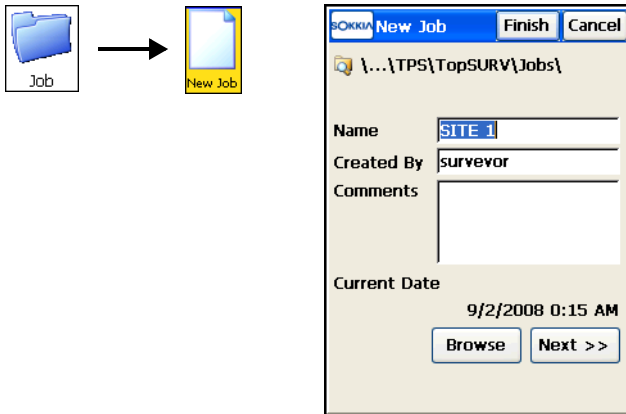

Figure 4-2. New Job
2. To create a new job, tap **Job ▶ New Job** or tap the **New** button on the *Open Job* screen during initial startup (see Figure 2-1 on page 2-1). The *New Job* screen displays (see Figure 4-2 on page 4-2). Enter the Name of the job and corresponding information (that is, the name of the surveyor and any necessary comments). The date is stored automatically. Tap **Next** to move to the next screen. At any stage, select the **Finish** button to create a new job. See the following sections to create a new job for your mode of survey.